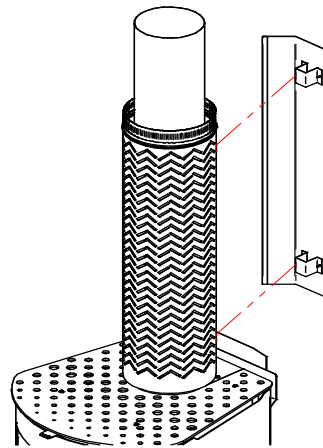

Figure: 7
6. Make sure that the decromesh is installed at least 15mm above the cook top, using brackets supplied with the flue kit. As shown in Figure: 7